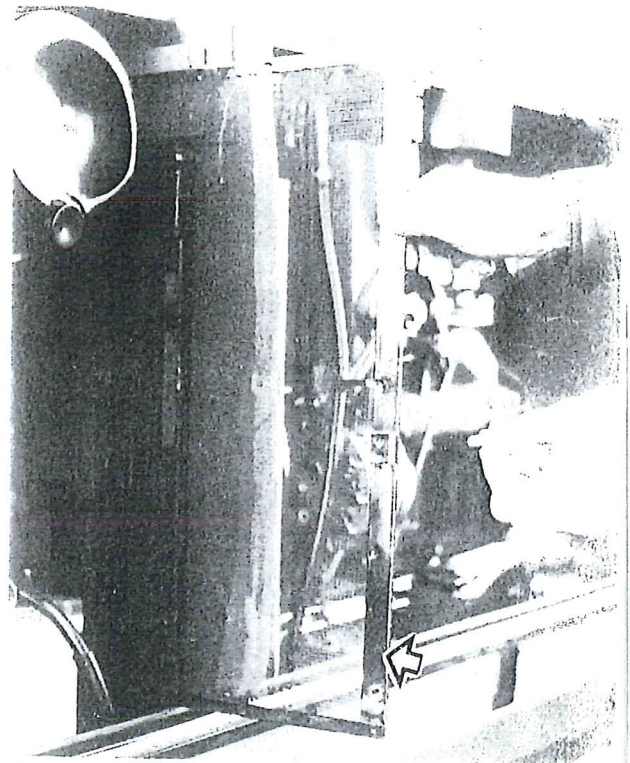

Figure 55 — Radiator Screen
5. Clean the radiator front screen, Figure 55.